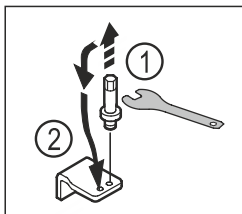

Fig. 21
- ▶ Unscrew the bolt of the lower swap bearing block with an Allen key AF5. Fig. 21 (1)
- ▶ Insert the bolt on the opposite side. Fig. 21 (2)